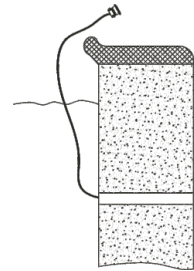

Figure 3
- 5) When installing underwater lights, be prepared long enough cable (Min 1m) to ensure that maintenance and replacement lamp can be out of the water. (Figure 3)